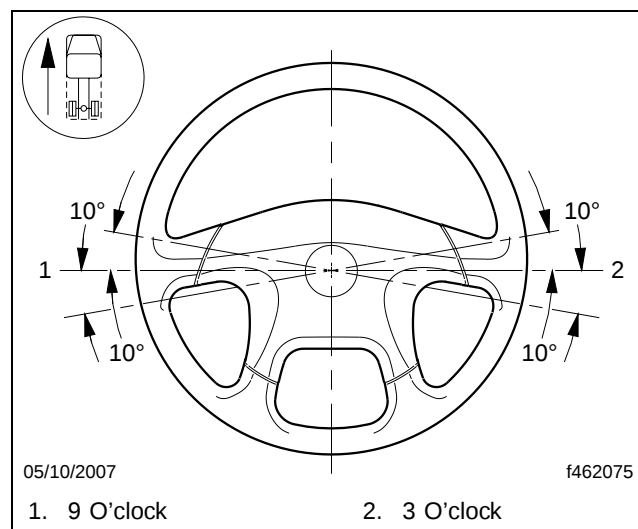

Fig. 15, Steering Wheel Centered
57. Make sure that the steering wheel is within 10 degrees of center as shown in **Fig. 15**. If it is not, remove and center the steering wheel.